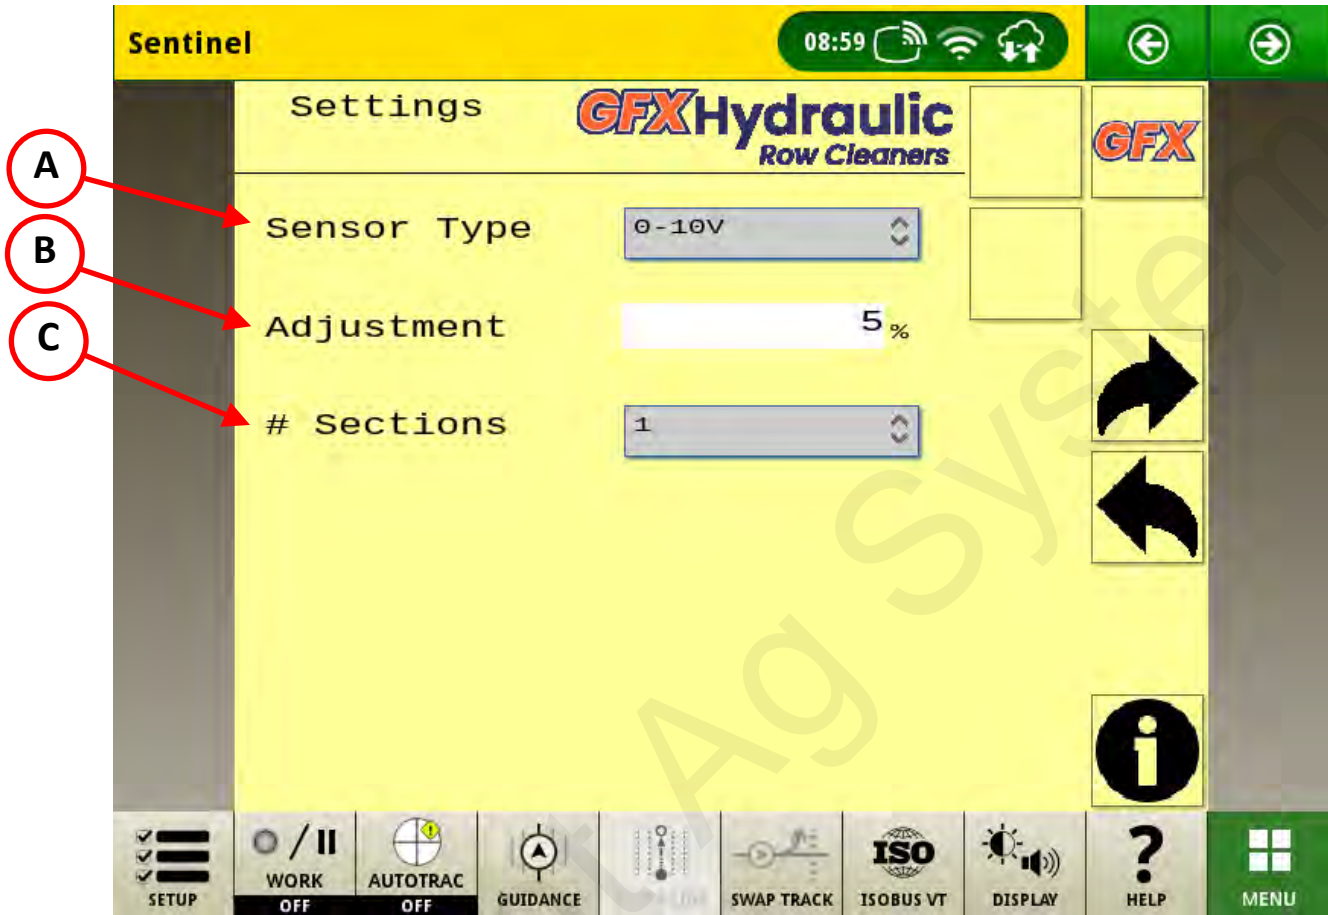

Figure 5.15:
- A) Adjustment—Press - or + to decrease or increase pressure setpoint. This will change in the numeric increment shown. This increment can be changed in the adjustment box on the 'Settings' page, see figure 5.15.